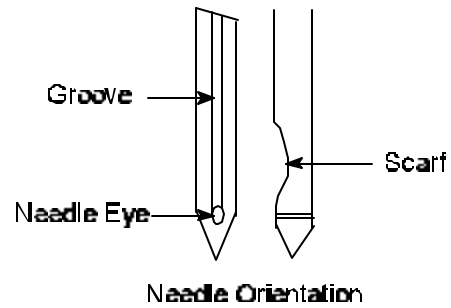

Figure 5
57. **Rotate** needle so groove is facing back and scarf is in front. See Figure 5.